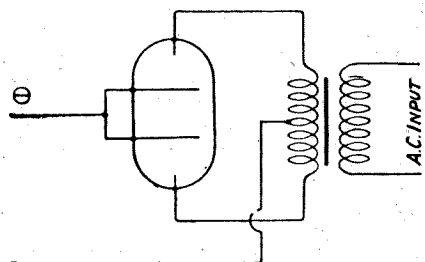
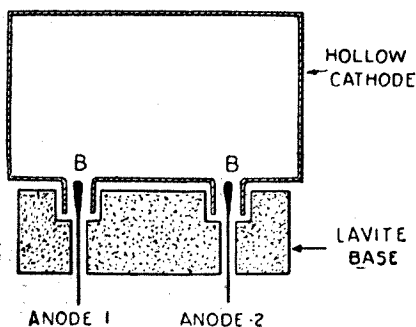

Fig. 1.—The one tube gives double-wave rectification, the circuit being as shown above.
Fig. 2.—Showing the construction of the rectifier.
*Fig. 2.—The coil of the crystal set is placed in a position of loose coupling with the valve set coil, the circuit of the former being tuned to the frequency of the local broadcasting station.*
The device is arranged to give double-wave rectification in the one tube, the circuit being as shown in Fig. 1. The actual mechanical construction of the tube, however,
The two small electrodes are in the form of thin rods, which are mounted in insulating material, while the two large electrodes, which are shown connected together in Fig. 1, are combined into a single casing which completely encloses the small electrodes. The construction is illustrated in Fig. 2.